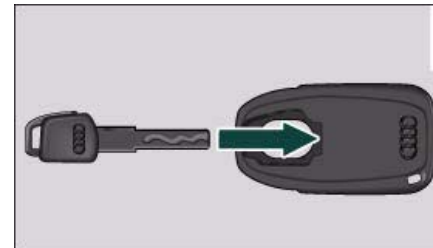

Fig. 37 Inserting the spare key into the adapter
- Slide the spare key ⇒ fig. 37 all the way into the adapter. Make sure that the Audi rings are facing upwards.